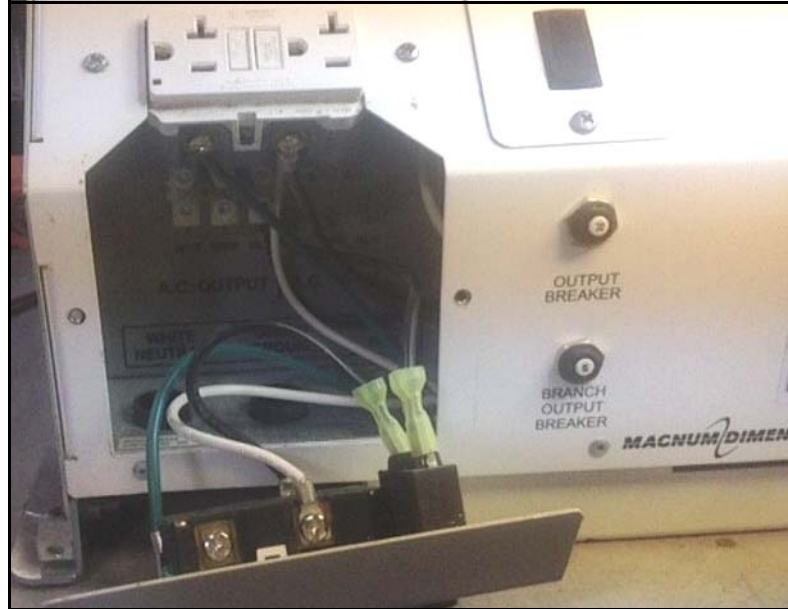

Figure 2. GFCI mounting plate removed facilitating access to both outlets.
7. Remove and retain the GFCI outlet mounting plate, providing access to both outlets as shown in Figure 2.